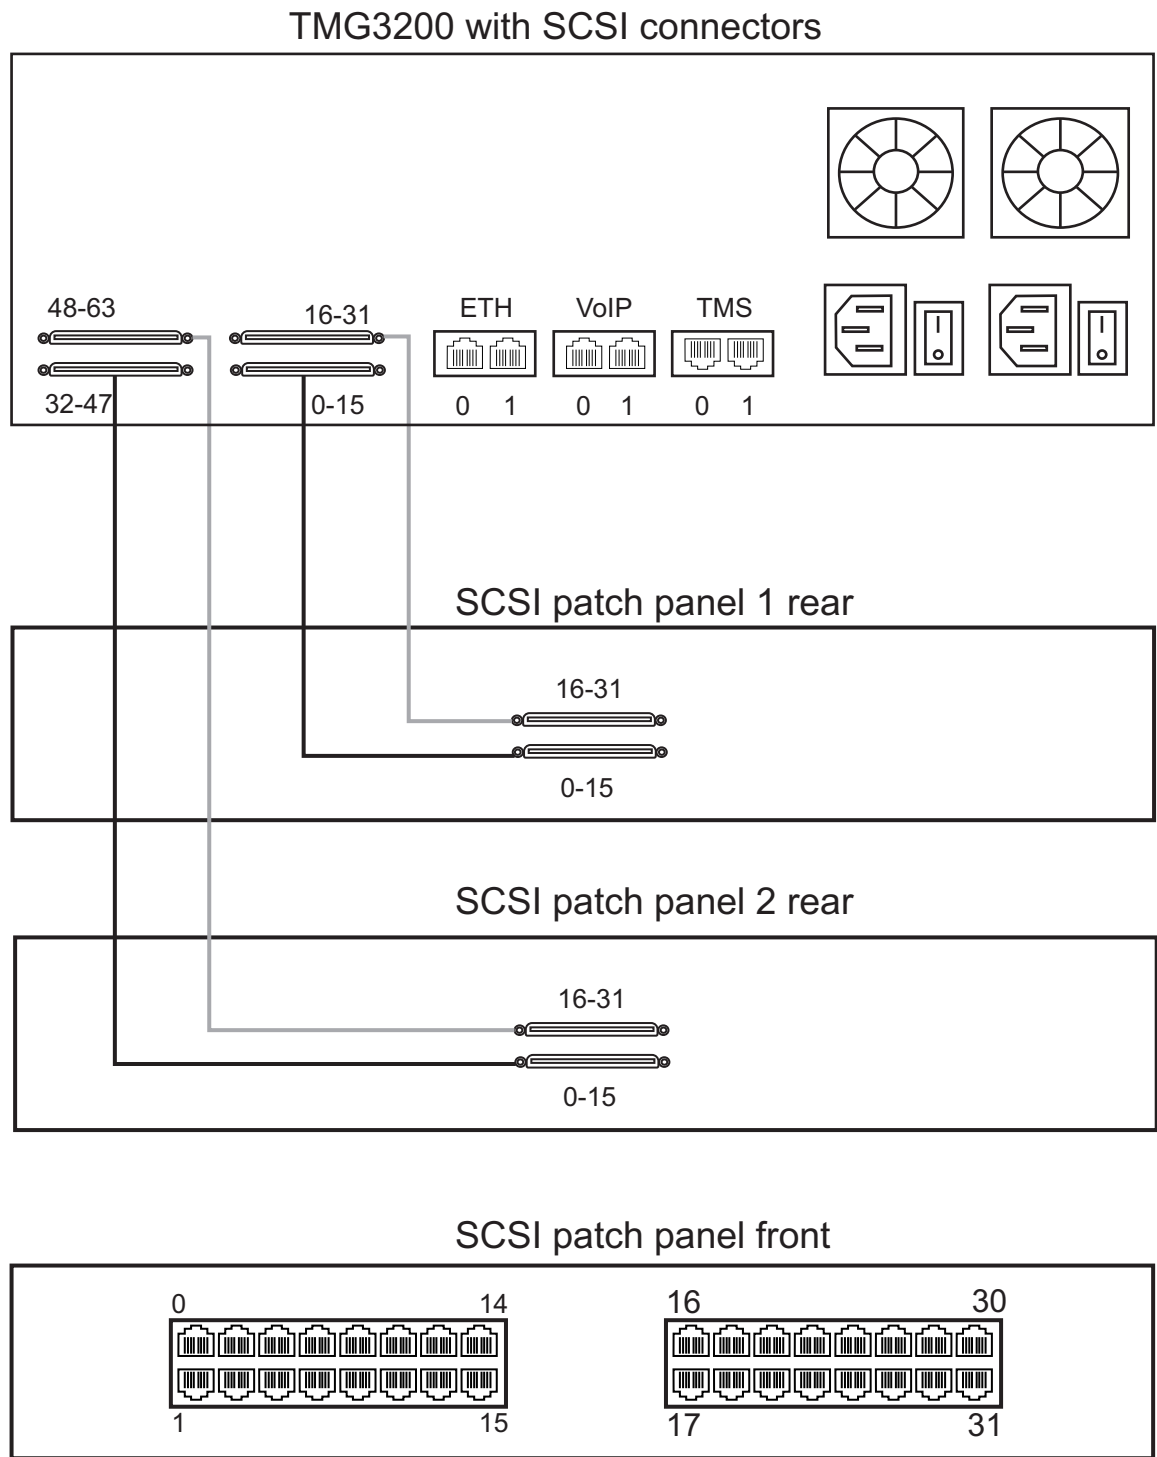

Figure 2.6 SCSI Interface to the PSTN
A TMG3200-TE with 4 SCSI connectors enables the connection to T1/E1/J1 lines. The termination impedance is set at 120 ohms. It is possible to connect an external balun in order to convert to 75 ohms. See figure 2.6 on page 16
1. Start with the SCSI ports 0-15 located at the bottom right as shown in figure 2.6 on page 16. Connect one SCSI cable between this port and SCSI patch panel number 1, ports 0-15. Connect SCSI ports 16-31 to patch panel number 1, ports 16-31.